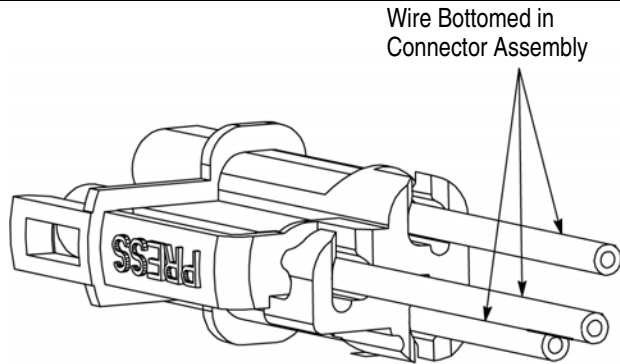

Figure 3
2. Insert each stripped wire into an insertion hole in the back of the plug or receptacle until bottomed. For field wiring, black and white wires must be inserted into corresponding holes marked "B" or "W". This "Wire-Trap Termination" method removes the need for application termination tooling. See Figure 3.